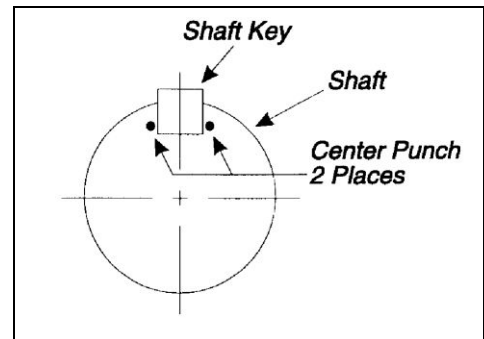

Figure 5 – Shaft Key Staking
3. After actuator is mounted, and shaft key is assembled in keyseat, secure shaft key by staking with a center-punch on the end of the shaft. Stake on both sides of the shaft as shown in Figure 5.